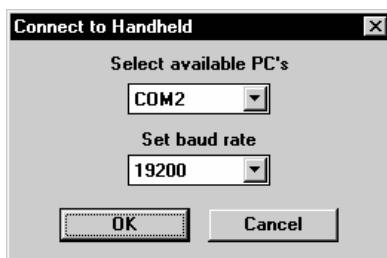

Figure A.5. Connect to Handheld Dialog Box
1. Select **Connect** from the **Handheld** menu or click the **Connect** button to open the Connect to Handheld dialog box (Figure A.5).